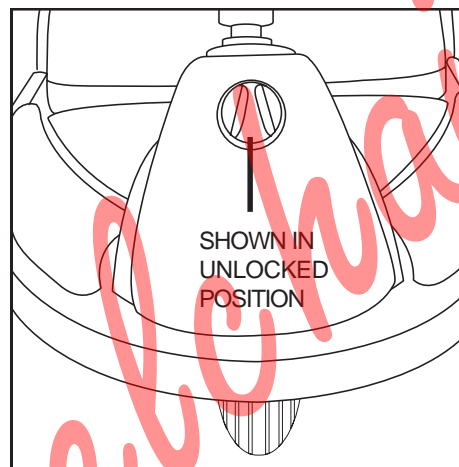

Figure 14. Tiller Lock Knob
1. Lock the tiller in place by positioning it forward then pushing the tiller lock knob in and turning it clockwise 90°. See figure 14.